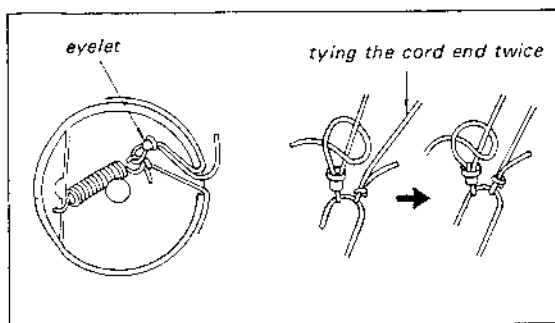

Fig. 2-9. Detail of the cord end
6. Tighten the cord, then squeeze the eyelet so that the spring is under tension. Make a knot in the cord end to keep it from slipping out of the eyelet. See Fig. 2-9.